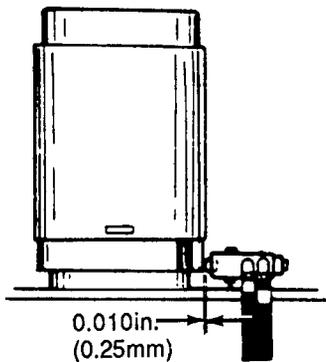

Figure 13-2
2. Insert 0.010 in. (0.25 mm) gauge between axle lockout valve rollers and high area of cam surface on rotary manifold (Figure 13-2). Slide axle lockout valve toward rotary manifold until axle lockout valve spring is fully compressed and hold in that position while tightening mounting nuts.